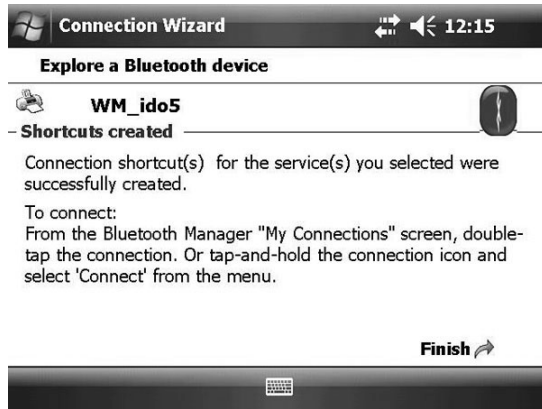

Figure 14-8. Press “Finish.”
8. Press “Finish.” See Figure 14-8.